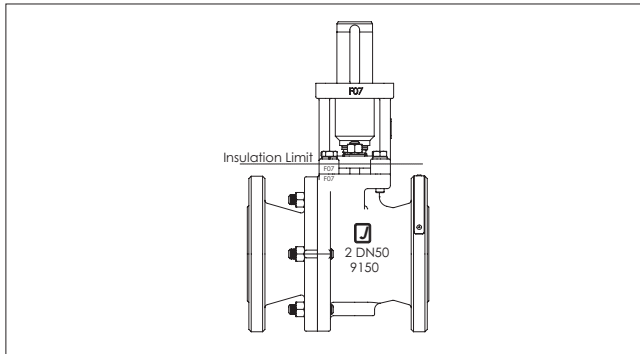

Figure 4. Insulation of the valve
*Jamesbury 7000 and 9000 series Flanged Ball Valves do NOT require insulation. If desired, the valve may be insulated; however, the insulation must not continue above the upper level of the valve (see **Figure 4**).*